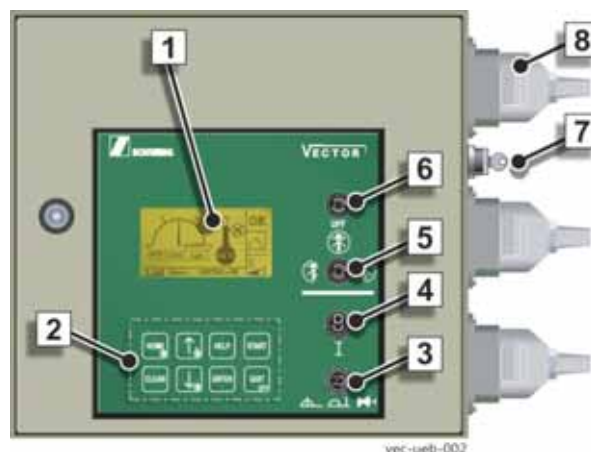

Fig. 82
Activate the "Pumping piston change" operating mode using switch 3 on the switch cabinet of the VECTOR control system ( Fig. 82 ).
<ul style="list-style-type: none"> <li>▶ Using the operating mode switch (3) (Fig. 82), select the "Local" operating mode</li> <li>▶ Lower all vertical outriggers until all of the vehicle's wheels are no longer in contact with the ground</li> </ul> <p>A horizontal extension of the outriggers is not required.</p>